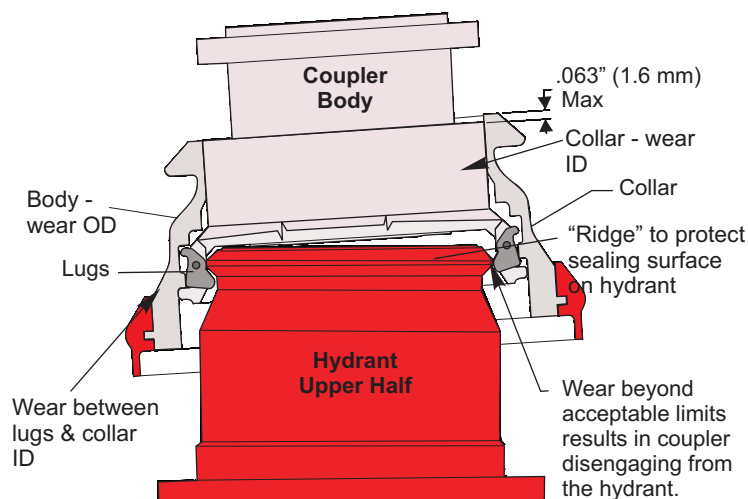

FIGURE 1 - RESULTS OF WEAR ON COUPLER/HYDANT INTERFACE
Figure 1 (top right) shows the results of an excessively worn Coupler and how the collar shifted from the centerline and rotated around the lugs directly opposite the operating handle. The surface where the collar ID contacts the coupler body OD must be excessively worn for this to occur. This rotation results in the Collar lifting on one side (directly opposite the operating handle) .100 of an inch (2.5 mm) or more when the coupler is pressurized. When the Collar is lifted, the latching lugs become partially unsupported and the lugs start rotating toward the disengaged position. The lugs are made of 7075-T6 aluminum with an ultimate strength of 83,000 psi, and the collar is a casting made of 356-T6 aluminum with an ultimate strength of 30,000 psi. As pressure increases the lugs (being stronger) rotate and deform the internal ring in the collar until the collar is lifted to the full disengaged position and the coupler separates from the hydrant valve.
A. Install the coupler to be tested onto a non-pressurized API/IP 1584 adapter that is within allowable wear limits (see Figure 1 above). Ensure that the collar has dropped completely into the engaged position. It is not necessary or recommended to open the poppet; however, if the coupler is pressurized or is full of fuel, this should be done over a basin to catch any fuel that may spill. Opening the poppet removes the capability to rotate the parts relative to each other. This test may require the participation of two people to achieve an accurate measurement.